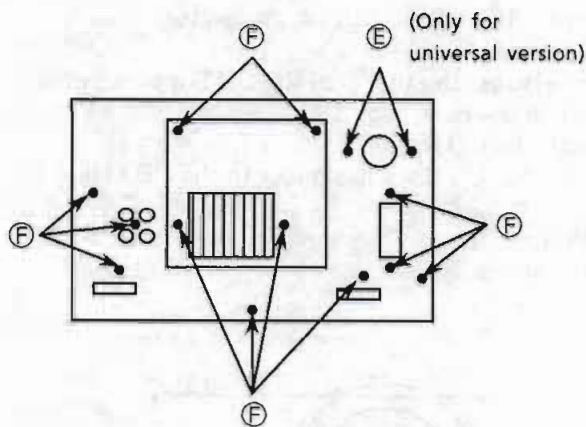

Figure 5 Rear view
2. Remove the screws (E) and (F) (Figure 5).